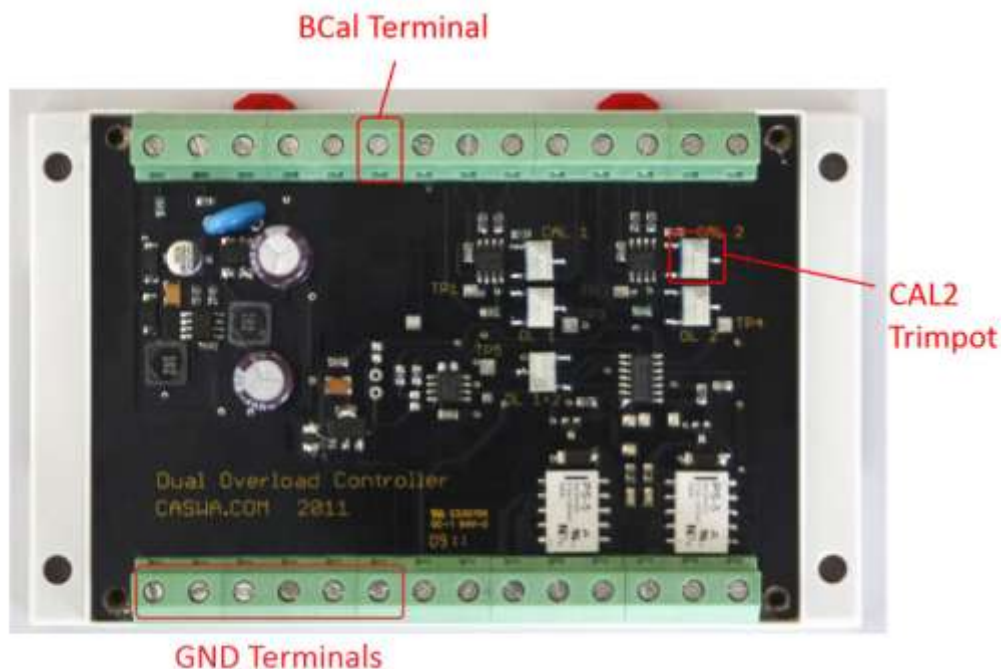

Figure 4: Setting the gain for Hoist B
7. Insert the positive probe into the BCal terminal on LimitMate (Figure 4). Ensure that the negative multimeter probe is still connected to GND.